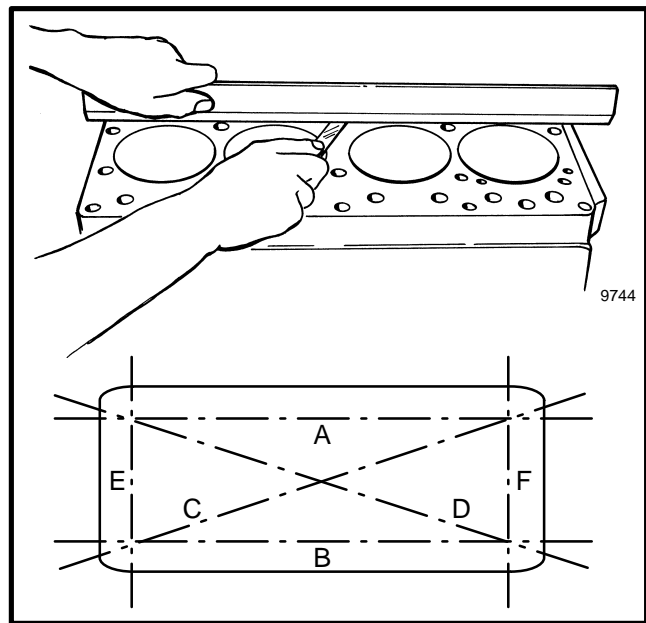

FIGURE 54. CHECK THE SURFACE OF THE CYLINDER BLOCK FOR DISTORTION
2. Before installation of the cylinder liners, check the surface of the cylinder block for distortion. Make the measurements at the positions shown in FIGURE 54. If the amount of distortion is more than 0.2 mm (0.008 in), repair the surface of the cylinder block. The maximum amount of machining that is permitted is 0.4 mm (0.016 in).